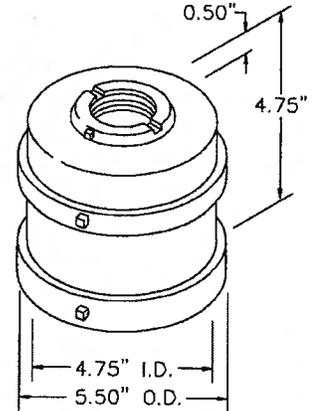

Figure 1
1. The One-Way Slipfitter shall be fabricated with dimensions and design characteristics as shown in Figure 1.
2. The Slipfitter shall weigh a minimum of two (2) pounds.
4. The Slipfitter shall tighten onto the pole by means of six (6) 3/8"-16 x 3/4" Square Head Setscrews. The Setscrews shall be located in two horizontal reinforcing rings and installed on 120° centers.